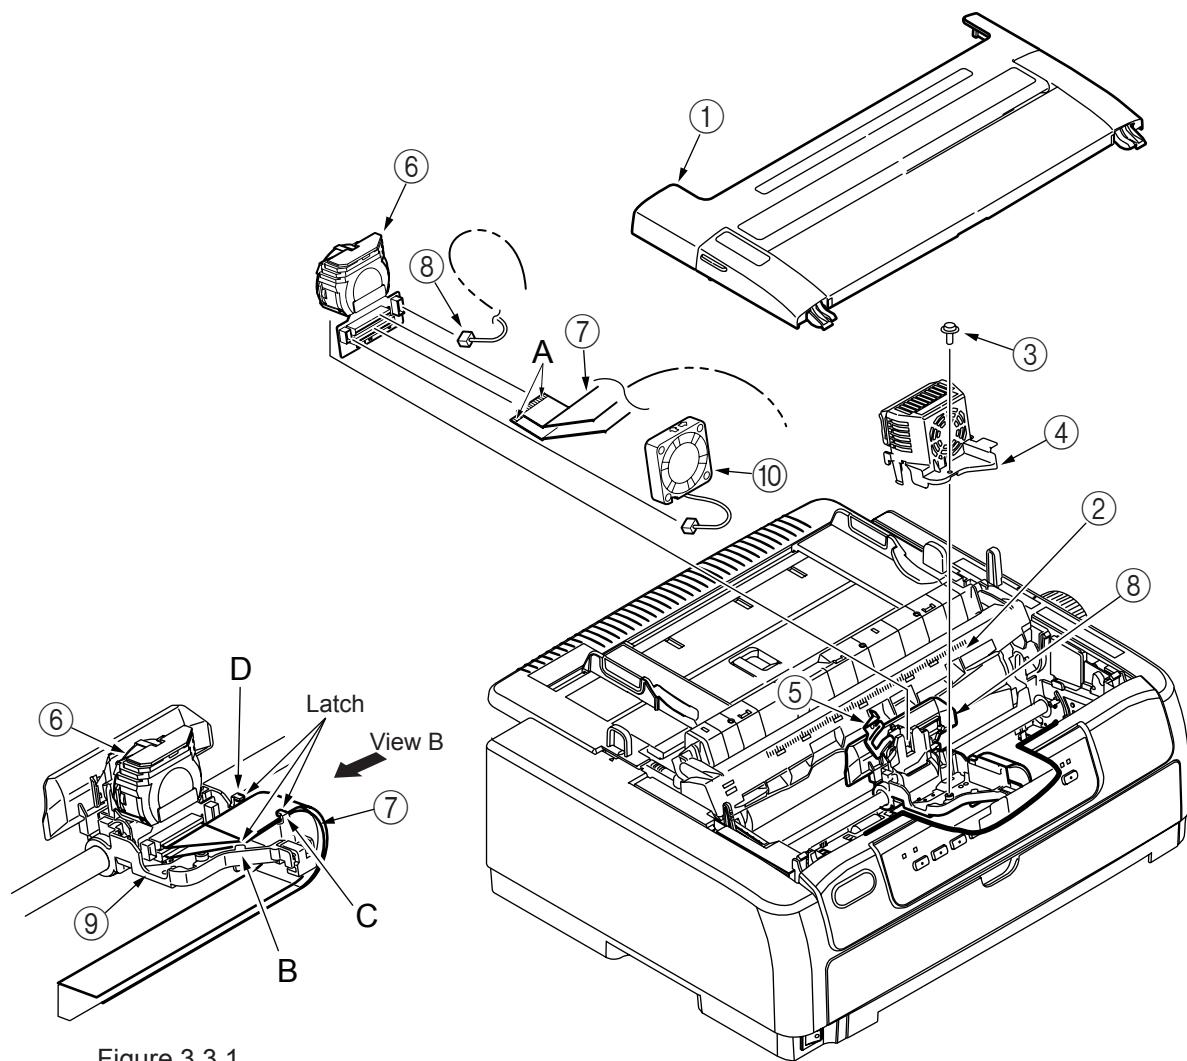
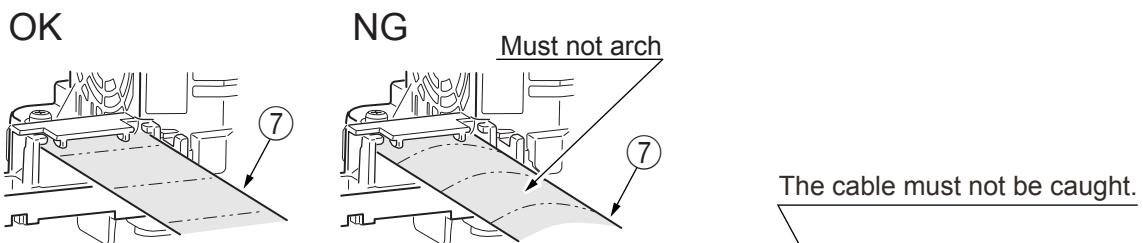

Figure 3.3.1
Figure 3.3.2 ( View B )
- (1) Connect the Head Cable ⑦ securely to the printhead ⑥.
To remove/ reinstall the Head Cable ⑦ from/ to the carriage frame ⑨, pay attention to the latch of the carriage frame ⑨ so as not to deform or damage the Head Cable ⑦.(Figure 3.3.2) Install it in the order of latch B, latch C, and latch D when you install Head Cable ⑦ in carriage frame ⑨.(Figure 3.3.1)